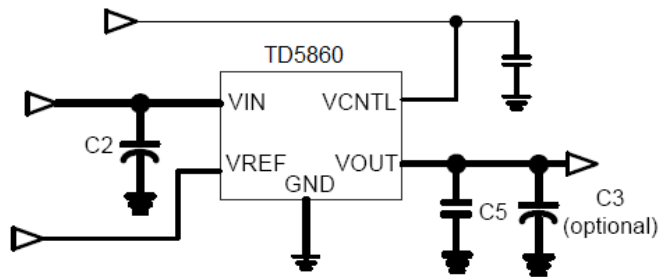

Figure 4
4. Large current paths, the bold lines in Figure 4, must have wide tracks.